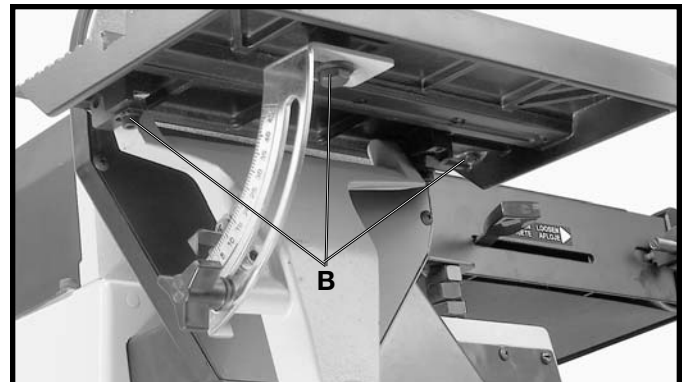

Fig. 31
3. If an adjustment to the table is necessary, loosen the three screws (B) Fig. 31, that fasten the table to the table mounting bracket and trunnion and adjust the table accordingly - then tighten three screws (B). Wrench not supplied.